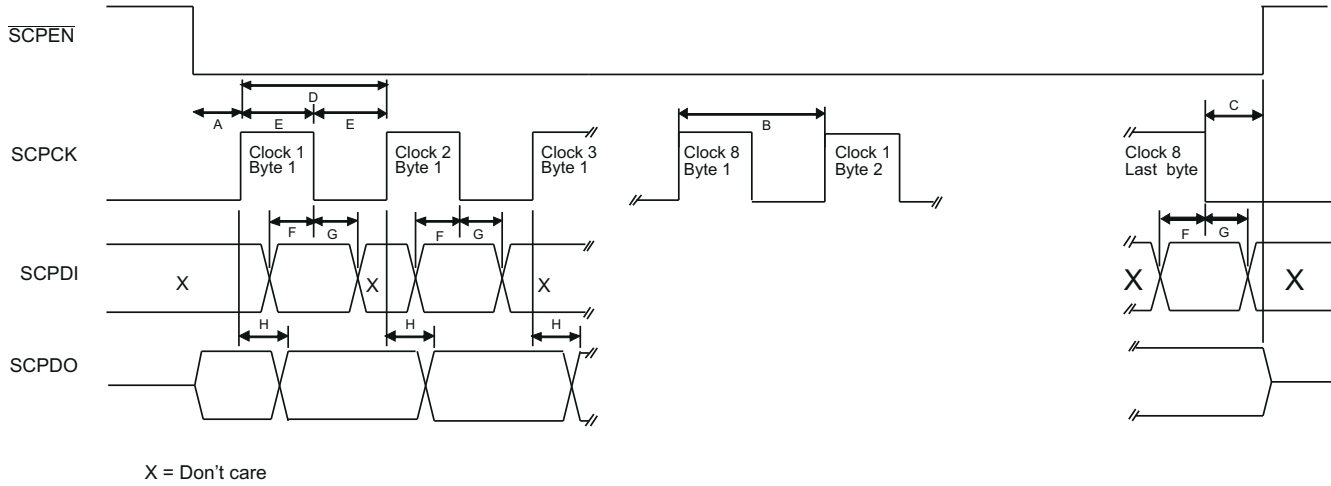

Figure 6-1. Serial Interface Timing
(1) See Figure 6-1
(2) There is no minimum speed for the serial port. It can be written to statically for diagnostic purposes.